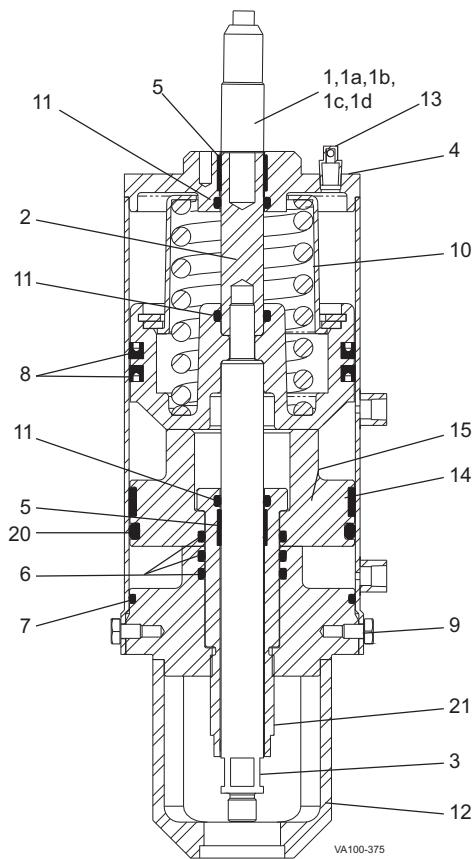

Figure 38: 4" Air-to-Raise 3-Position Actuator
1. Inspect the upper piston U-cup seal (Figure 38, item 8).
2. Remove the worn U-cup seal. Do not score or nick grooves in the piston (item 10).
5. Inspect the lower piston O-ring (item 20), stem O-ring (items 6 and 11) and yoke O-ring seals (item 7).
6. Remove the worn O-ring seals. Do not score or nick grooves in the piston (item 15).
9. Inspect and replace the PTFE guide bearings (items 14 and 5) as needed.
10. Place the outer stem (item 21) in the lower piston.
11. Screw the outer stem into the yoke (item 12).